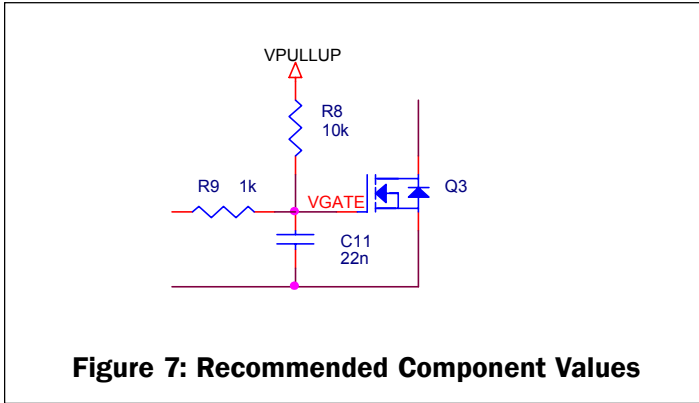

**Figure 6: Ensuring Q3 Will Turn Off**
- 1)  $V_{GATE}$  must be below the gate threshold voltage of the MOSFET in order to ensure that it can be turned off (see Figure 6):